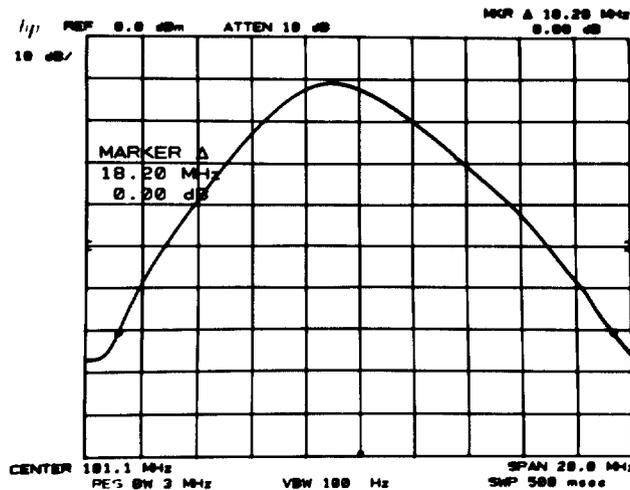

FIGURE 6. 60 dB BANDWIDTH MEASUREMENT
4. Press MARKER  and position marker at peak of signal trace. Press MARKER  and position movable marker 60 dB down from the stationary marker on the positive-going edge of the signal trace (the MARKER Δ amplitude readout should be $-60.00 \text{ dB} \pm 1.00 \text{ dB}$). It may be necessary to press SWEEP  and adjust  so that both 60 dB points are displayed (see Figure 6).
6. Read the 60 dB bandwidth for the 3 MHz resolution bandwidth setting from the MARKER Δ frequency readout (see Figure 6) and record the value in Table 6.